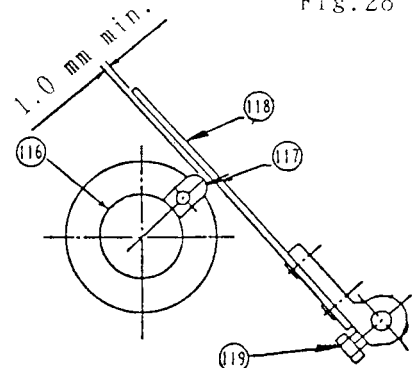

Fig.29
2. To adjust the looper thread tension restoring lever. (Fig.29)